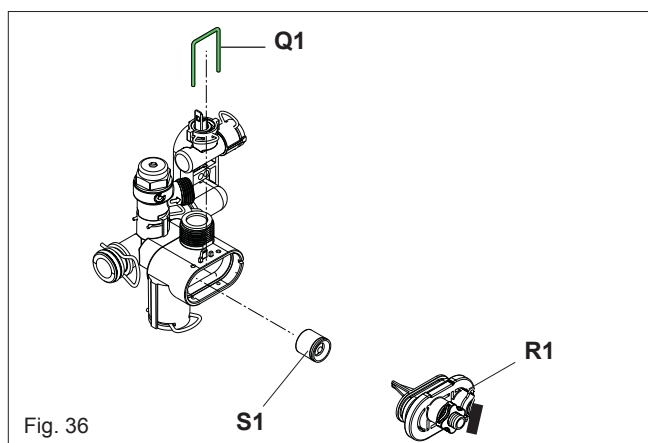

Fig. 36
6.17 AUTOMATIC BY-PAS (fig. 36)
Have access to the printed circuit board, locate and open the closing plug on the dash board (L2), locate and press the CO button (see fig. 36 pos. SW1). Press the button the number of times according the function requirement as par 7.3.1.